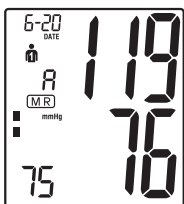

Fig. 4
1. Memory viewing (MR)
- To access the memory resources, press the MEMORY (M) button.
- The device will display the average result of the last 3 measurements (Fig. 4).